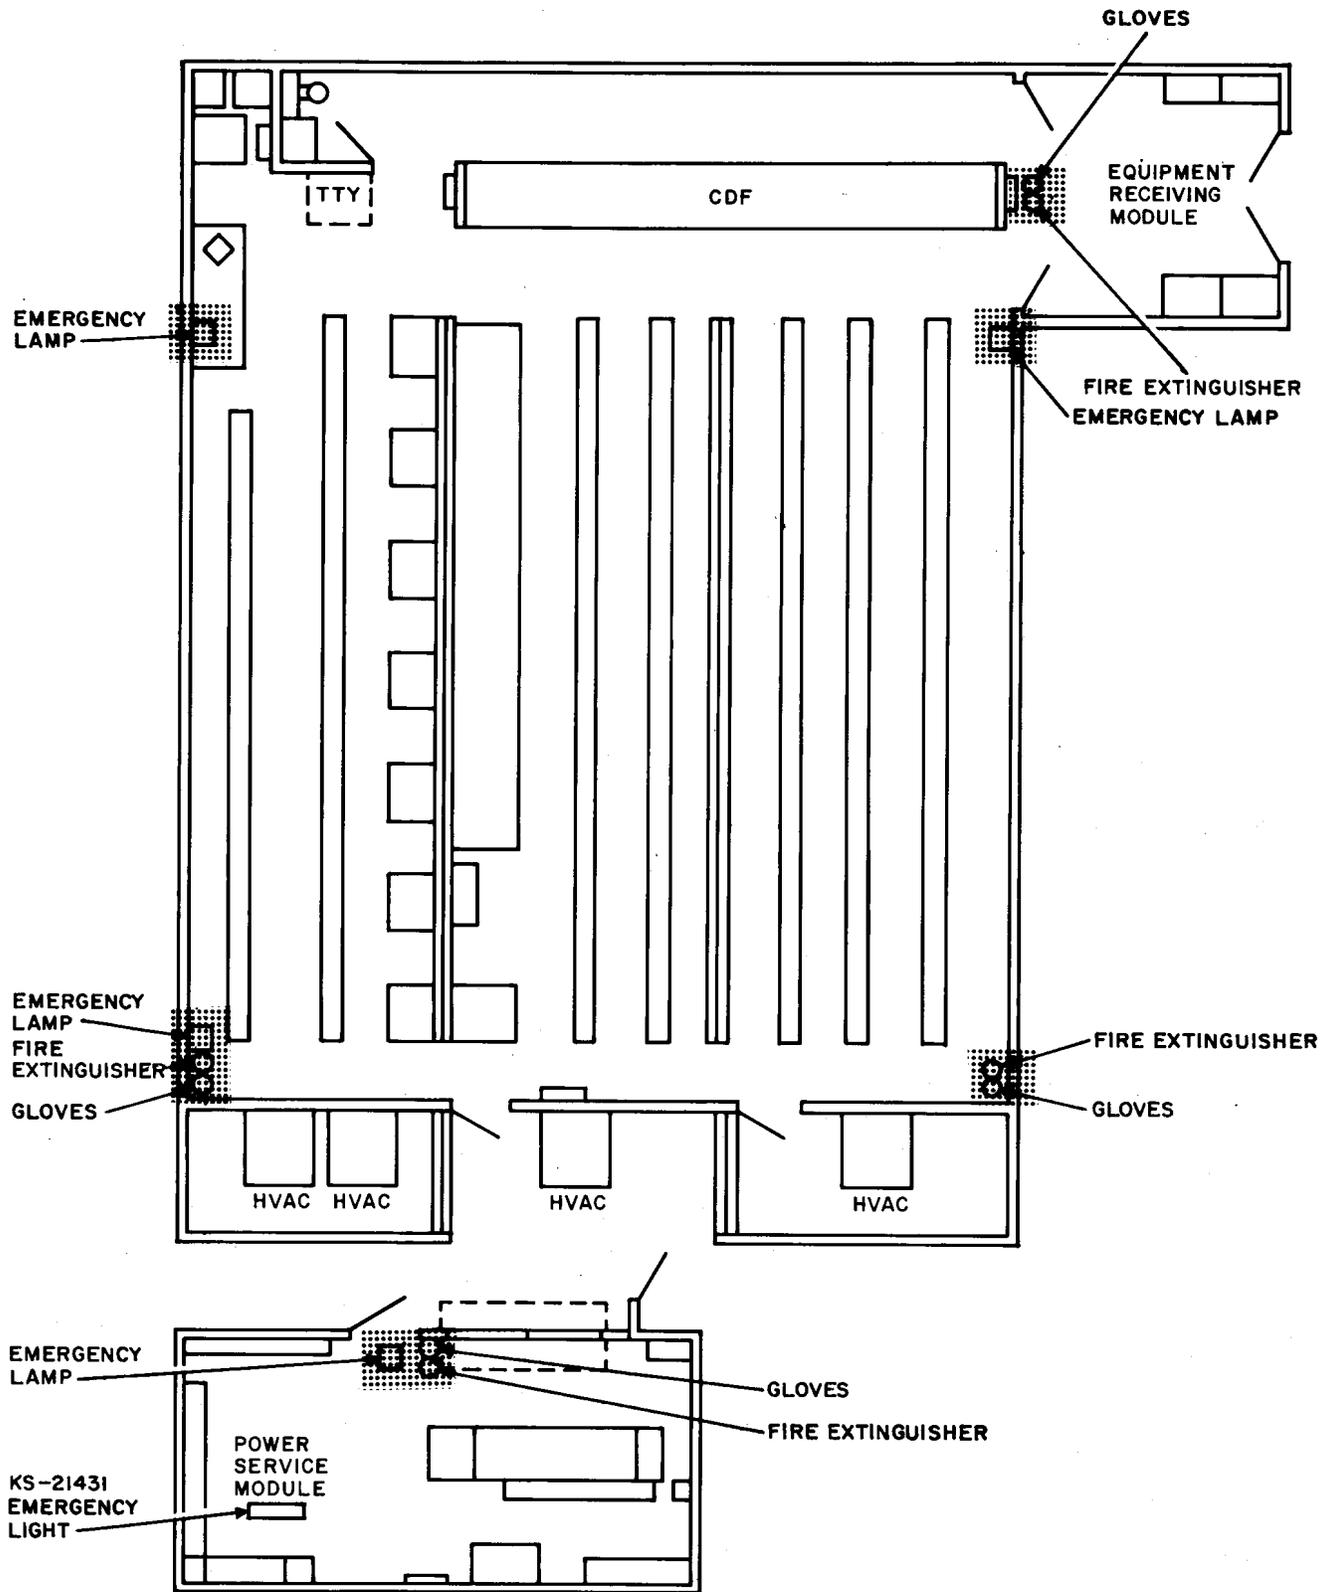

Fig. 29—Location of Emergency Equipment
in Fig. 29. In an administration module, one additional emergency lamp unit is provided.
7.08 The emergency lighting system in the power service module is provided by General Electric Company* of Danville, Illinois, Fig. 29. The two lighting units (KS-21431) are located on the Day Brite fixtures and provide illumination for the ac switchboard.